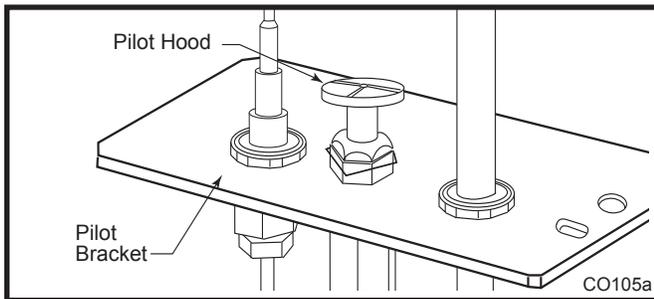

Fig. 31 Remove pilot hood.
• Remove pilot hood by lifting up. (Fig. 31) **NOTE:** It is not necessary to remove the pilot tube for conversion.